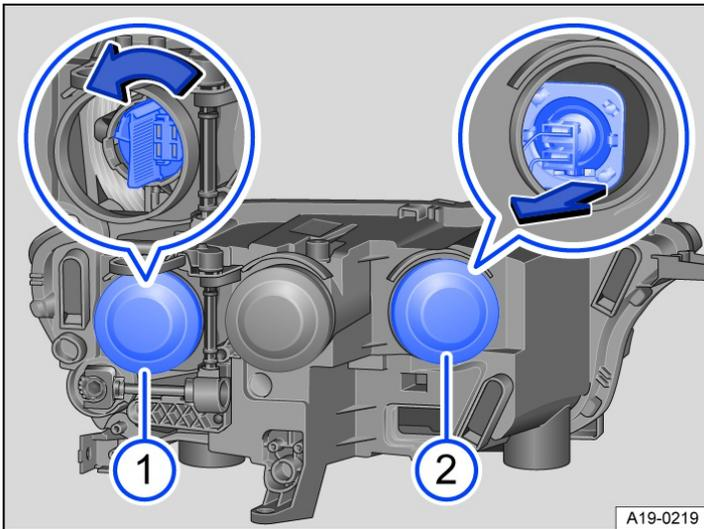

Fig. 1 In the engine compartment: rear view of the left headlight.
3. Pull off rubber cover → Fig. 1  from the back of the headlight. Depending on the version, a hard plastic cover may be fitted here. Turn the cover anti-clockwise and remove it.